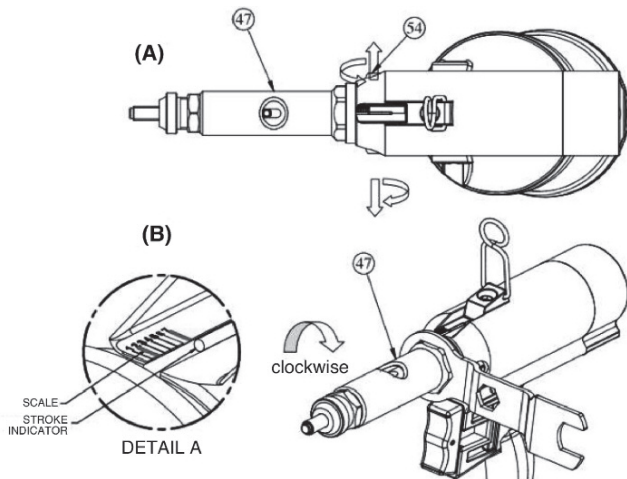

Fig. 2
- Loosen the two Allen screws (54, Figure 2-A) of the frame head (47).
- Rotate the frame head (47, Figures 2-A and 2-B) to obtain the required stroke. The stroke will be reduced if the pin is rotated clockwise and vice versa.
- Adjust the pin according to the graduated scale shown in Detail A of Figure 2. Each turn corresponds to an adjustment of 1.5 mm.
- Screw in the two Allen screws (54) of the frame head (47).